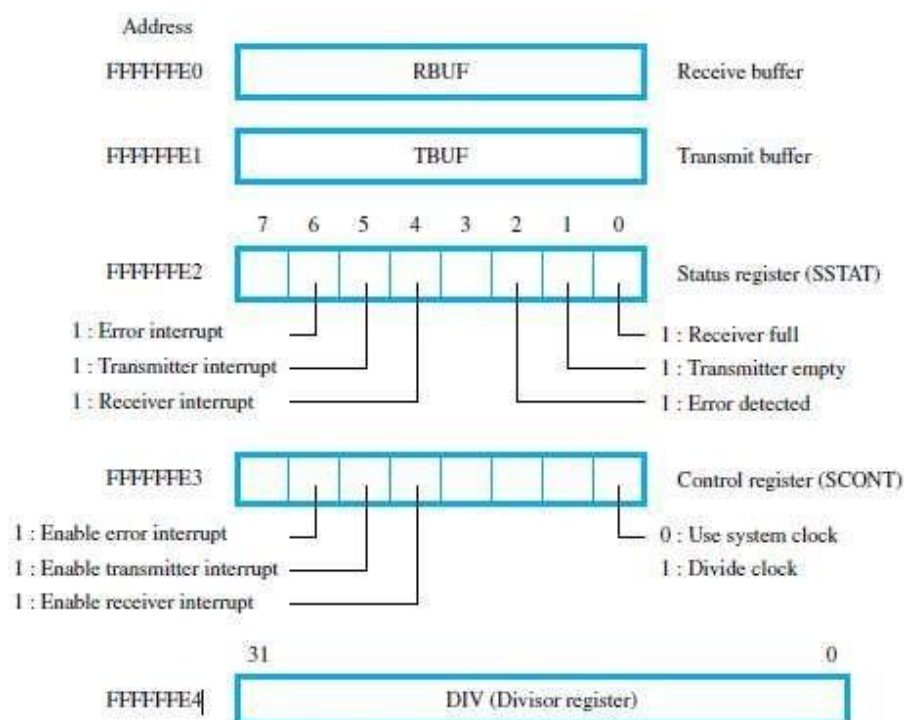

Figure 10.8 Serial interface registers.
• **Addressable Registers** are (Figure 10.8):